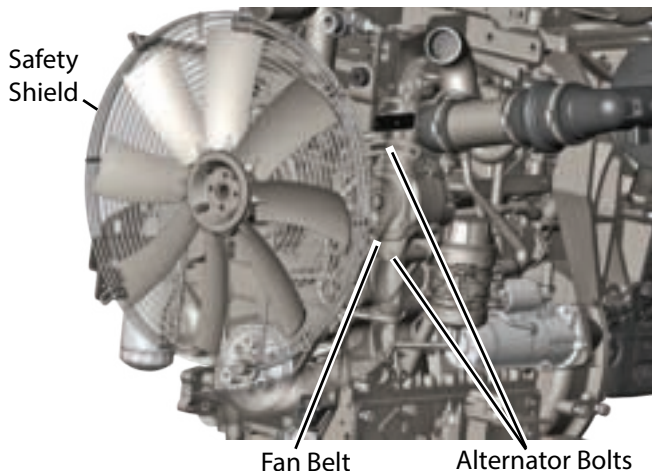

Figure 5-15. Engine Belt
2. Remove the safety shield. (Figure 5-15)